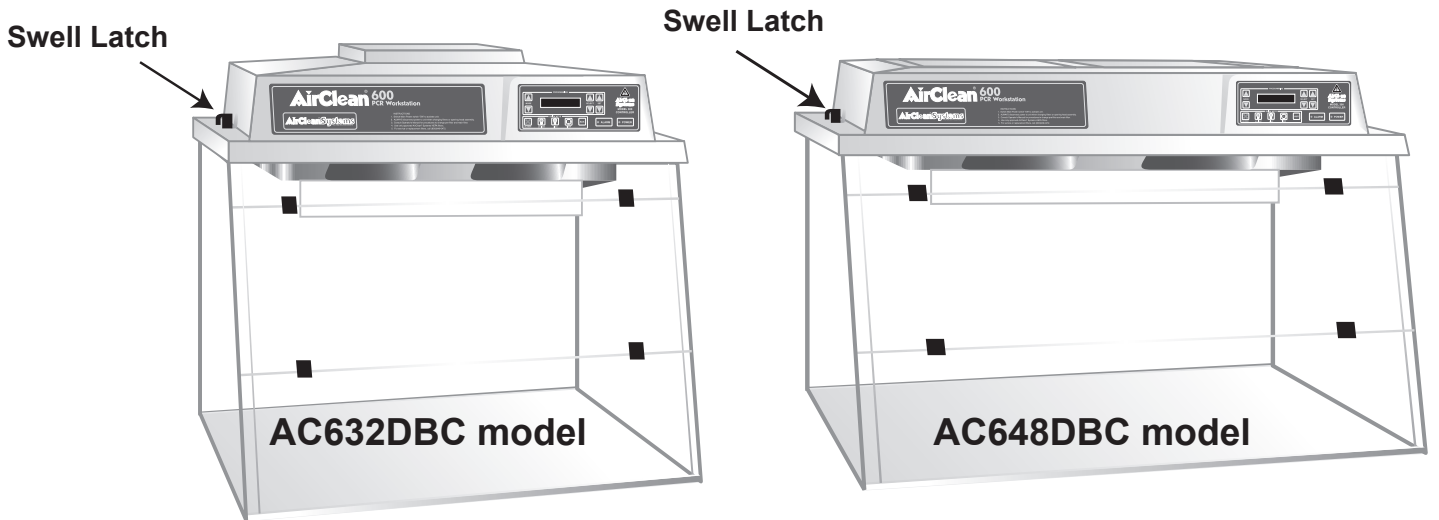

Figure 3, Swell latch locations.
- 7) Make sure that the swell latches, located on the side lip of the head assembly, are in the latched (down) position and that the head assembly is secure and properly seated. See figure 3. (Page 10)